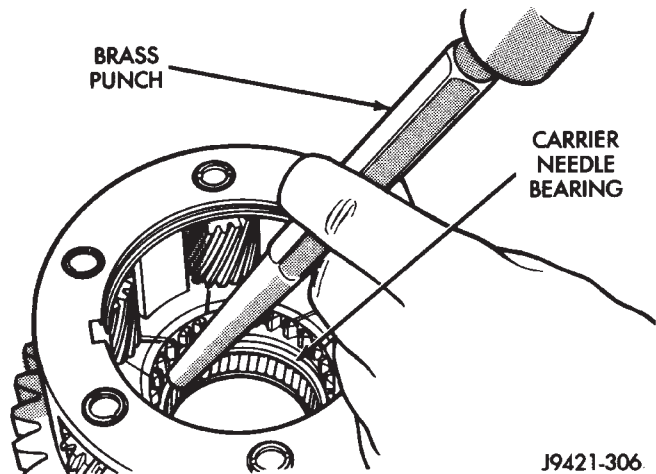

Fig. 54 Carrier Needle Bearing Removal
(13) Inspect carrier needle bearing. If bearing is worn, rough, or damaged in any way, remove it with a brass punch and hammer (Fig. 54).